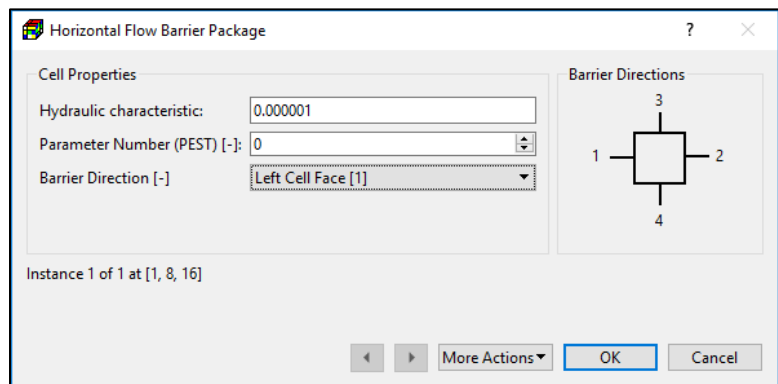

Figure 68. The Horizontal Flow Barrier Package dialog box
1. **Cell-by-cell input method:** Figure 68 shows the dialog box for specifying cell properties.